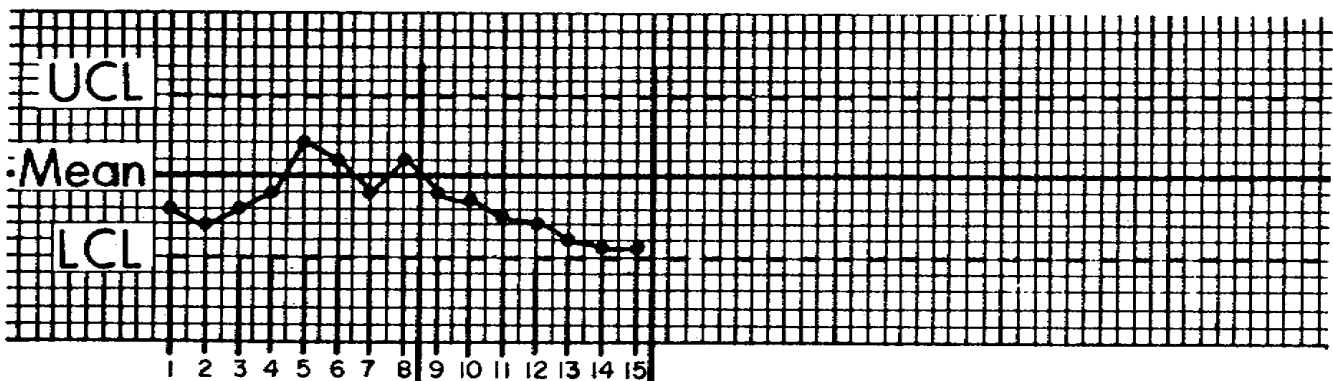

Figure 29
e. Figure 29 represents the next seven days' plots. The first consideration is that all plots are chance causes (within the control limits); however, they are all moving in the direction of the lower control limit. Five plots or more in one direction, either high or low, is considered a trend. Even though all the plots are within the control limits, they indicate that the solution strength is decreasing and that the gamma will soon plot outside the control limits.